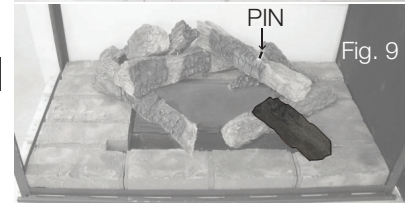

Fig. 9
- Place log #9 onto the pin located in log #6 and let it rest on the right side corner hearth pad and then place one pin into log #7 (**FIG.9**).